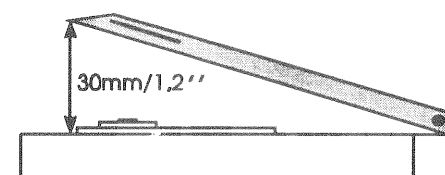
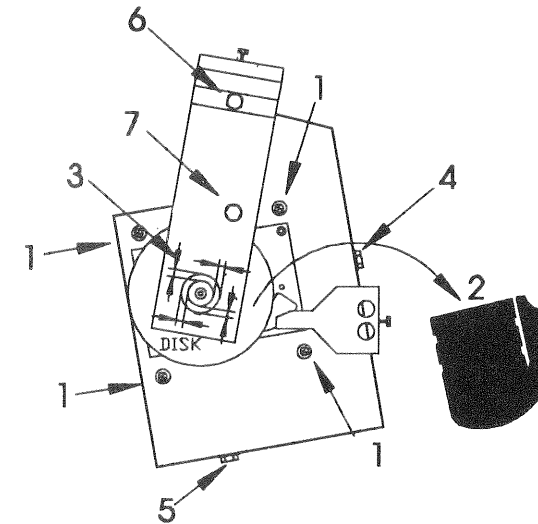

Fig. 33
Fig. 29
- In rest position the pressure lid is slightly up (griper arm is in basket position). The opening in this position should be 1,2 inch (30 mm; Fig. 33) To control this remove first the black plastic cover of the pressure arm. Adjustment can be effected by the adjustment screw on the lift bracket, ensuring the lock nut is retightened afterwards (Fig. 29, Pos. 2).
- Bring griper arm in play position. Shaft below the chassis (Fig.33, Pos. 1) must have a clearance of approx. 0.2mm to the left lever (Fig.33, Pos. 2). If under this value correct by re-adjusting the screw on the lift bracket.
- Loose the four Philips head screws on the laser chassis (do not remove it, Fig. 29, Pos. 1).
- Remove black plastic cover from pressure arm (Fig. 29, Pos. 2).
- The inner circle of the CD should be concentric with the hole of the magnetic pressure disc (Fig. 29, Pos. 3).
- Adjust if necessary on the RH side of the chassis with the hex screw (LH/RH direction, Fig. 29, Pos. 4) and with the hex screw in front of the player chassis (back/front direction, Fig. 29, Pos. 5).
- Adjust with the hex screw to the middle of the pressure arm (Fig. 29, Pos. 7).